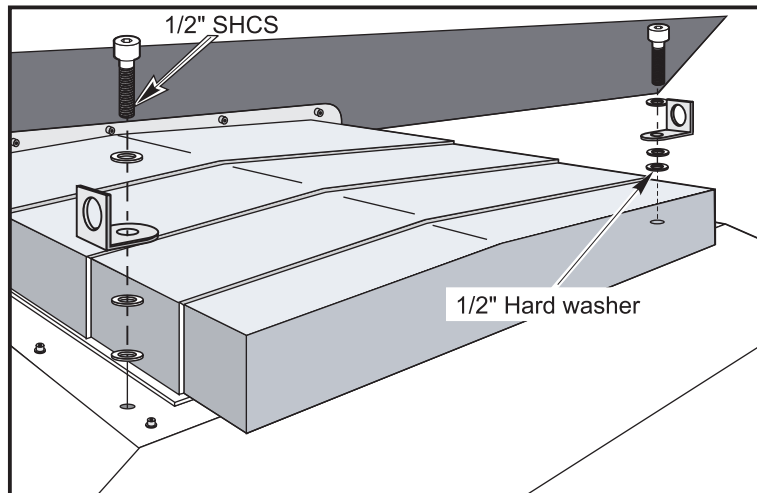

Fig. 12.26-3 Lifting bracket mounting location for VF-3 and VF-4.
3. Install the lifting brackets with (2) 1/2"-13 SHCS and (3) 1/2" hard washers, [(2) washers under bracket and (1) above bracket] on the base as shown in Figure 12.26-3. Tighten securely.